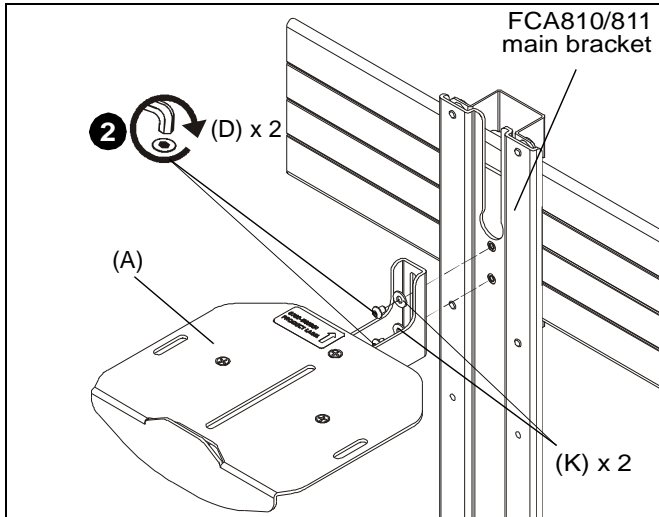

Figure 9
2. Use two #10-32 x 1/4" button head cap screws (D) and two #10 washers (K) to secure FCA820/821 shelf (A) to FCA810/811 main bracket. (See Figure 9)